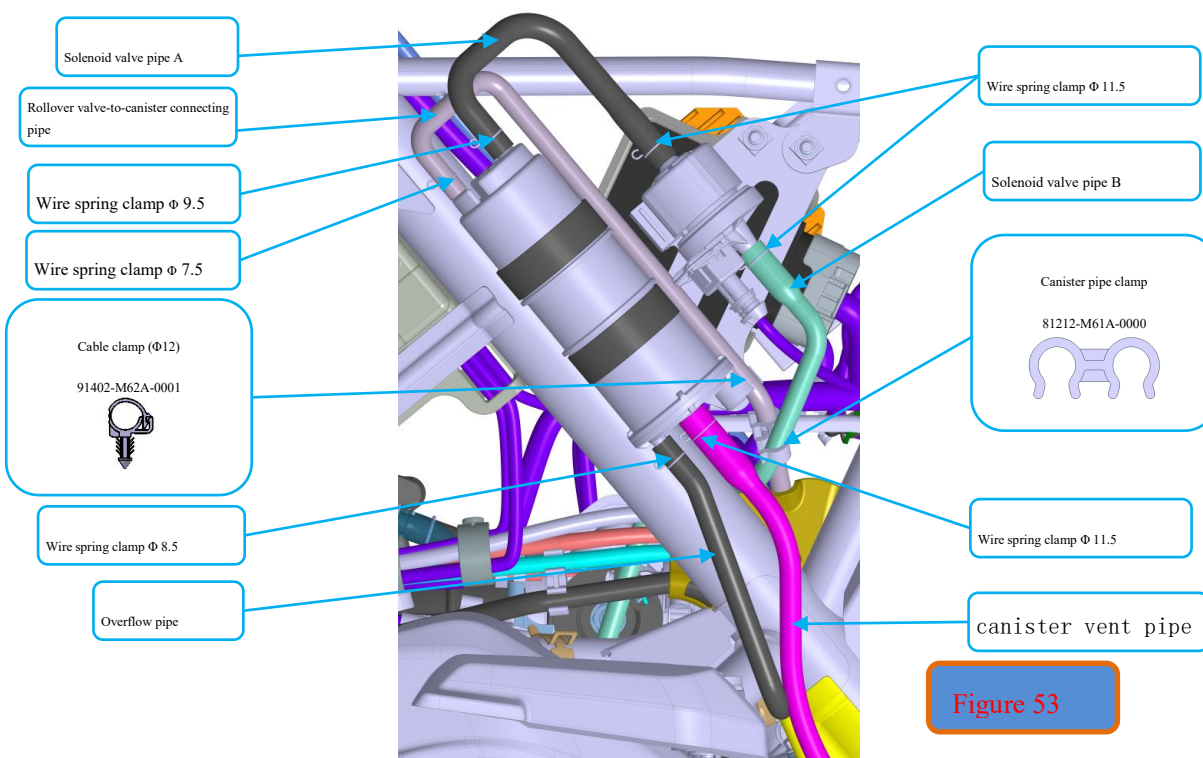

Figure 53
- (1) Secure the rollover valve-to-canister connecting pipe to the frame with a cable clamp ($\Phi 12$) (91402-M62A-0001), as shown in Figures 53.
- (2) Secure the rollover valve-to-canister connecting pipe and solenoid valve connecting pipe B together with a cable clamp ($\Phi 12$) (91402-M62A-0001), as shown in Figures 53.